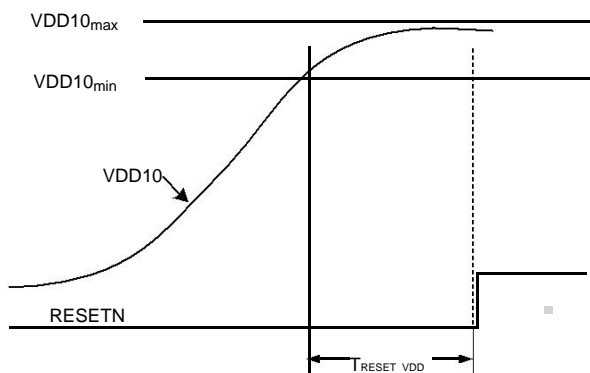
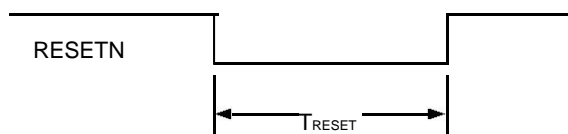

Figure 4.1. Conditions of RESETN
Figure 4.2. RESETN Minimum Timings
- Reset on RESETN signal can be LOW as the supply becomes stable, as shown in Figure 4.1, or pulled LOW at least  $T_{\text{RESET}}$  as shown in Figure 4.2.
Power sequencing is not required the SiI9678 transmitter. However, to ensure a proper reset the rules mentioned under the diagrams in Figure 4.1 and Figure 4.2 must be followed.
VDD10 must be stable between its limits Normal Operating Conditions  $T_{RESET\_VDD}$  before RESETN goes high, as shown in Figure 4.1. Before accessing registers, RESETN must be pulled low  $T_{RESET}$ . This can be done by holding RESETN low until  $T_{RESET\_VDD}$  after stable power, as described above, or by pulling RESETN low from a high state at least  $T_{RESET}$ , as shown in Figure 4.2.